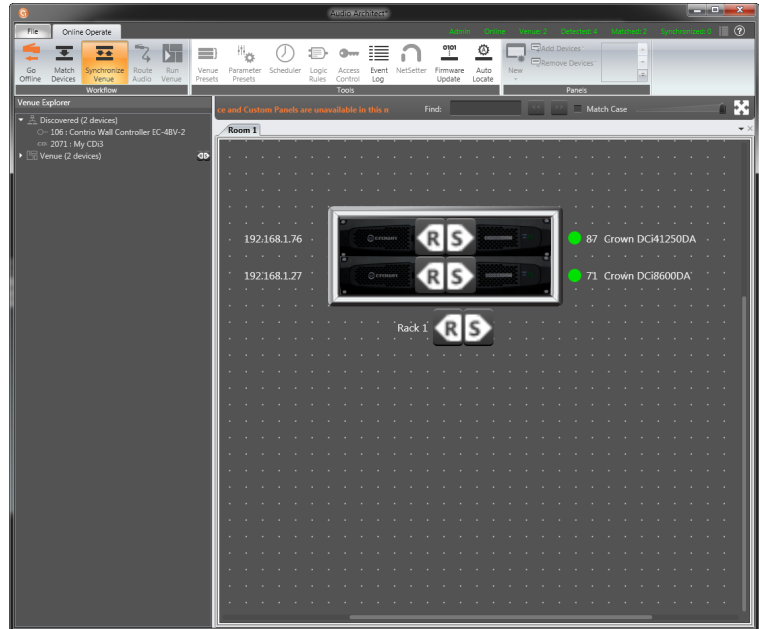

Figure 22: Send and Receive icons
- b. If all the devices in the venue are matched, going online lands in Synchronize Venue mode. In Synchronize Venue mode, **Receive** and **Send** icons will appear for each device, rack, and room in the venue design (see **Figure 22**). This provides the ability to send/receive data either to/from a single device, all devices within a rack, or the entire venue with a single click. Click the **Send** icon to send settings from Audio Architect to the device(s), or click the **Receive** icon to pull the current settings from the device(s) and display them in Audio Architect.